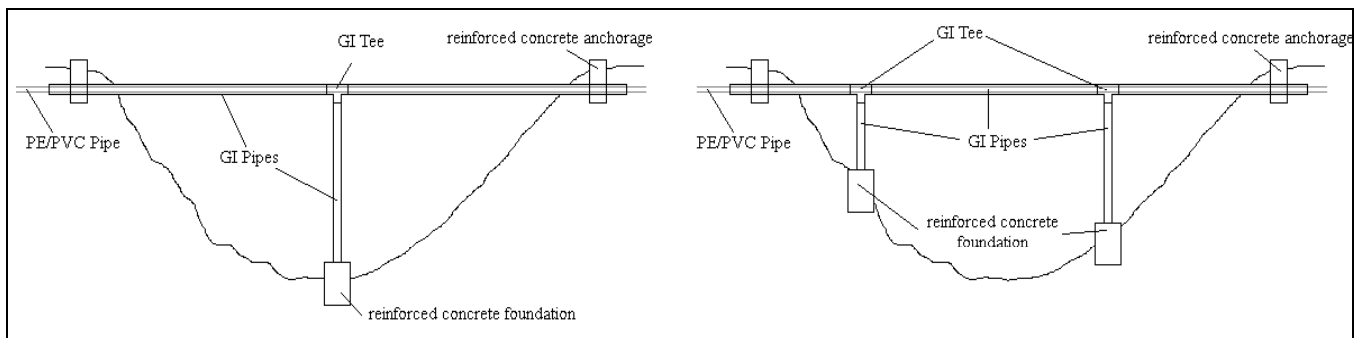

Fig.23: Crossing a gully or a river on a length of 5 to 10 m.
- If the length is 5 to 10m, the use of two GI pipes is recommended. It is indeed necessary to support the pipes using vertical GI pipes filled with concrete and anchored at their base in reinforced concrete block as illustrated in figure 23. The location of the pipe used as posts depends on the type of soil and/or the quantity of water in the river.